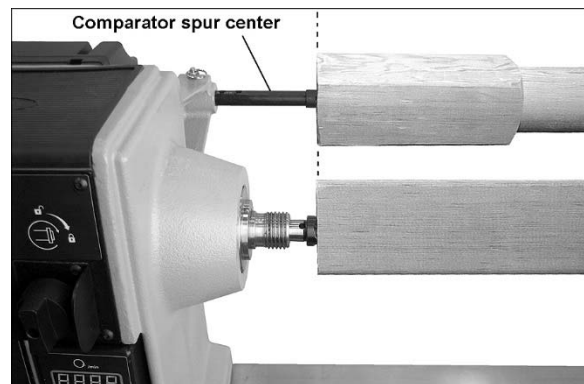

Figure 8-6: comparator
- Install comparator *spur center* into guard bracket, by lifting up on plunger and inserting comparator spur center until its point is about even with point of spur center in headstock spindle. See Figure 8-6. The plunger in the bracket must engage one of the holes in the comparator center at this position.